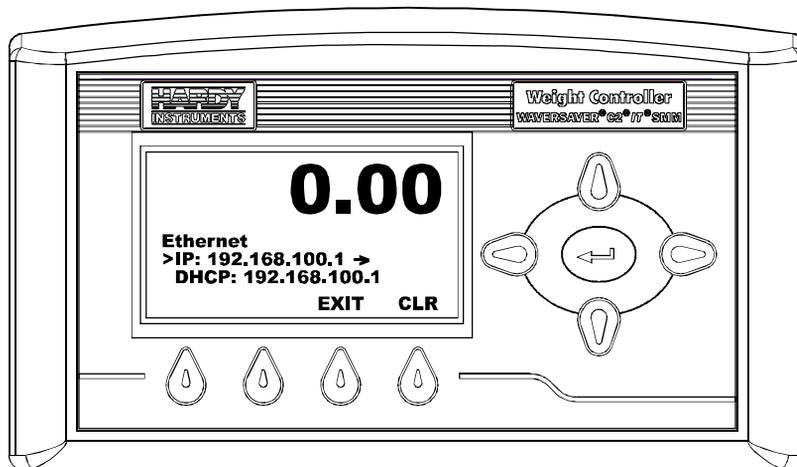

FIG. 109 ETHERNET MENU/SELECTING IP
Step 2. Press the Enter button. The Ethernet Menu appears with the cursor in front of IP. (See Fig. 109)